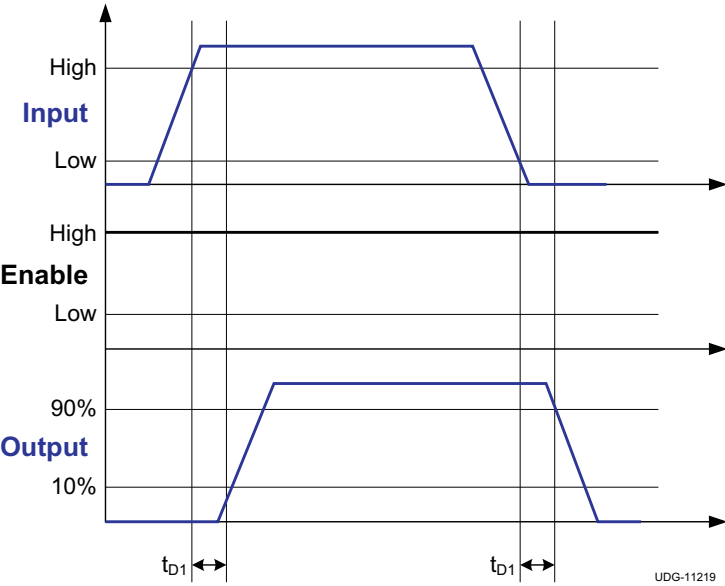

Figure 1. Non-Inverting Configuration
(1) Ensured by Design.
(2) ROH represents on-resistance of P-Channel MOSFET in pull-up structure of the UCC27518 and UCC27519's output stage.
(3) See timing diagrams in Figure 1, Figure 2, Figure 3 and Figure 4.